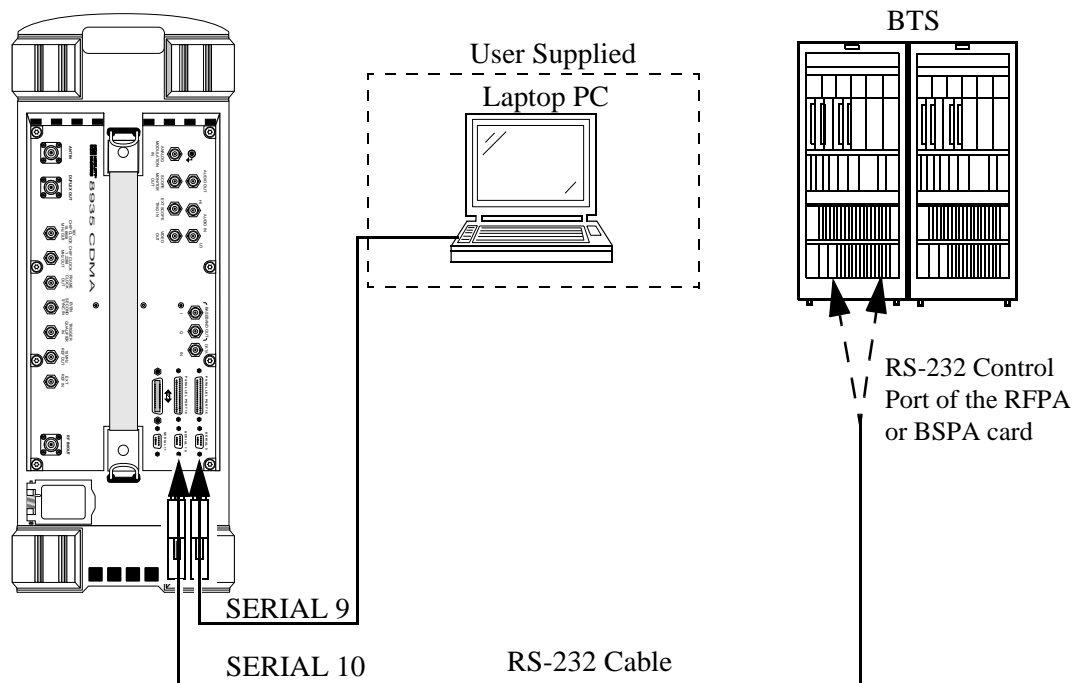

Figure 43 Connections for Site Control
Figure 43 illustrates the connections between the Test Set and base station necessary to send site control commands. You can send control commands directly from the Test Set's laptop emulator or alternatively from the keyboard of the external PC. See "**Laptop Emulator**" on page 136 for detailed information on how to use the Test Set's laptop emulator. To send the commands using the external PC keyboard, you need to connect the external laptop PC, additionally, to the Test Set's SERIAL 9 port. See "**Site Control Using the Laptop > BTS Mode**" on page 139.
1. First, make sure that you have connected the external laptop PC to the Test Set's SERIAL 9 port as shown in figure 43 on page 132.